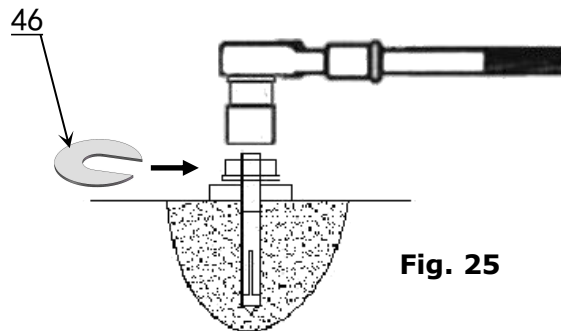

Fig. 25
I. Assembly offside platform and slider block, (See Fig. 24) check the plumbness of columns with level, adjusting with the shims if not, and then tighten the anchor bolts (See Fig. 25).